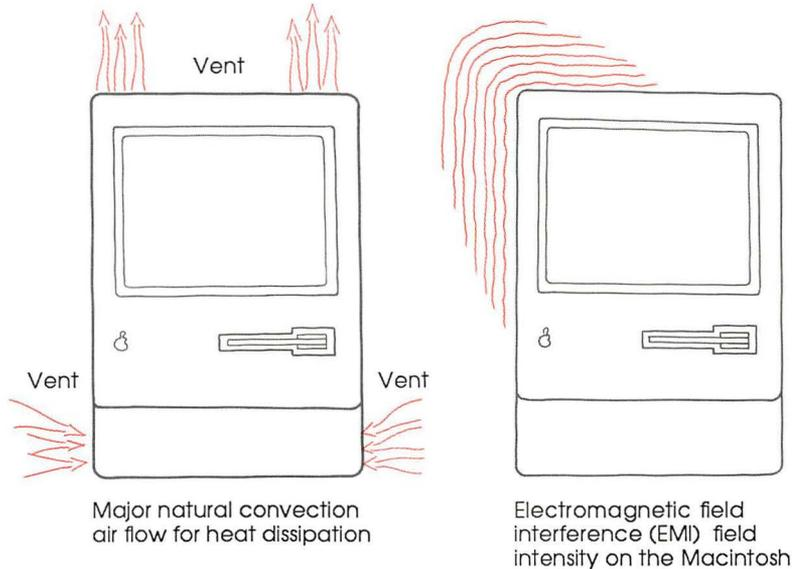

Figure 2-5
- Left some space between the drive and the monitor. Non-Apple monitors connected to the Apple IIGS may cause the drive to have errors because of the electromagnetic interference (EMI) field emitted by the monitor. Apple monitors are shielded to contain the EMI. The left side of the Macintosh emits some EMI. See Figure 2-5.